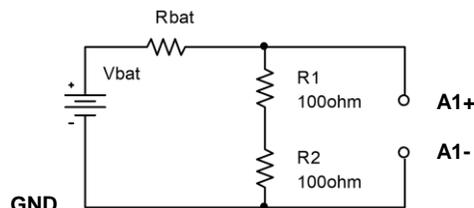

Figure A-5.
- Now add a load to the battery, as in **Figure A-5**. The load is two 100Ω resistors in series. We will discuss why two resistors are used a little later. Set up the circuit so that you can add and remove the load quickly, leaving it disconnected unless you are making a measurement. This just means wire it so that it is easy to pull out and reinstall one end of one resistor. You should only connect the load to the battery for a short moment (a second or two) long enough to make the measurement. If you leave the resistors connected, your battery will drain down quickly and will definitely not last a full semester. Record the voltage displayed in the Voltmeter window of the Analog Discovery with the resistive load disconnected. Then connect the resistors, quickly record the new voltage, and quickly disconnect the load. You may want to repeat this a few times to find the typical change of voltage with and without the load. Remember to record the unloaded battery voltage as well as the change in voltage. In the figure, A1+ is 1+ and A1- is 1- on the Analog Discovery Board.
- Use the results from this experiment to determine the value of R_{bat} . We can apply the circuit in Figure A-5 to the voltage divider equations shown above. We are measuring the voltage across R_1+R_2 which are equivalent to R_2 in the voltage divider equation. When R_1+R_2 is an open circuit, we are effectively measuring V_{bat} , which is V_{in} in the voltage divider equation. When $R_1+R_2 = 100\Omega+100\Omega$, the result is V_{R_2} in the voltage divider equation. We can then find R_{bat} , which is V_{R_1} in the voltage divider equation.
- As noted under Figure A-5, the information you have just obtained about each battery using a voltage divider can be used to determine the internal resistance of the battery. What is the internal resistance of the two batteries characterized by your team?